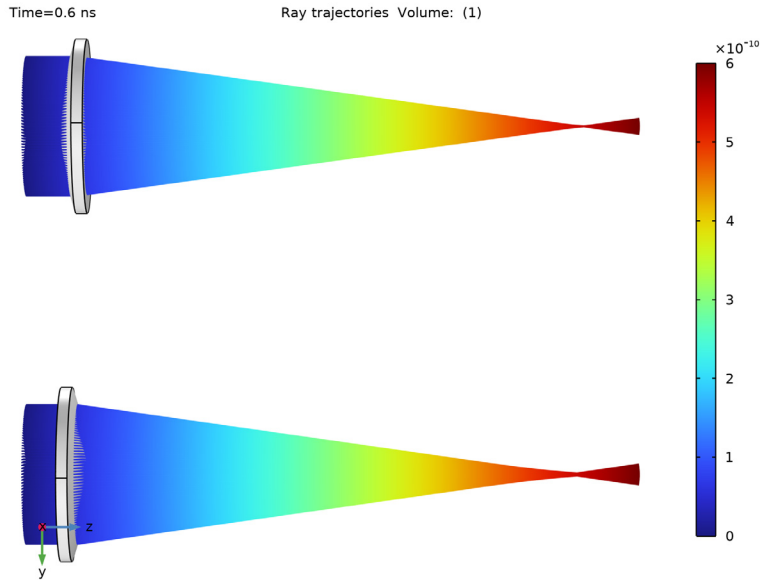

Figure 2: Ray trajectories plot shows convex side facing collimated beam focuses the beam more tightly.
The configuration where the convex side is facing the collimated beam provides the tightest focus, as qualitatively shown in Figure 2. The spot diagram and the geometric
- 4 Click the  **Zoom Extents** button in the **Graphics** toolbar. The ray trajectories should look like Figure 2.